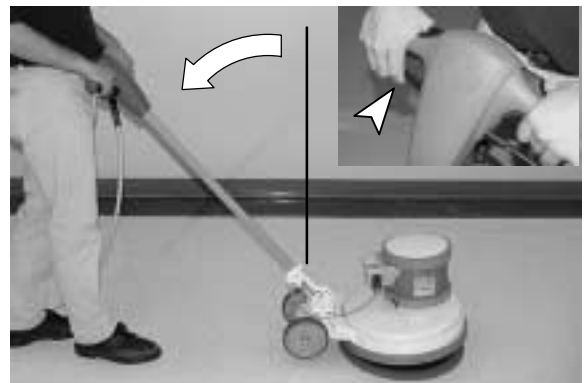

FIG. 10
- Lower the handle to a desired operating height by pulling the handle height adjustment lever. Release lever to engage handle (Figure 10).